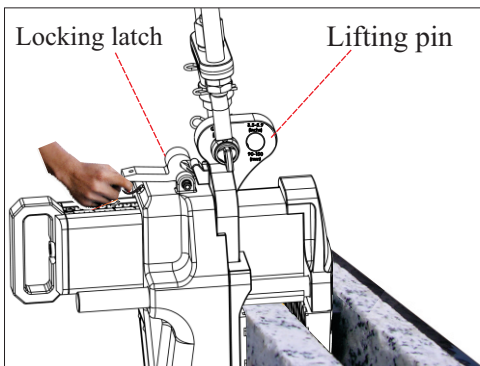
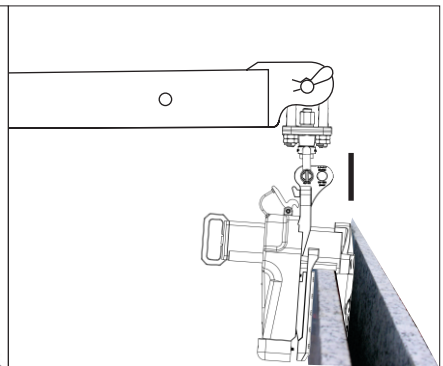

Figure 5.2
Figure 5.3
- Unlock the locking latch (pull down the wire) (Figure 5.2) then pull the lifting pin up to clamp the slab tightly (Figure 5.3).